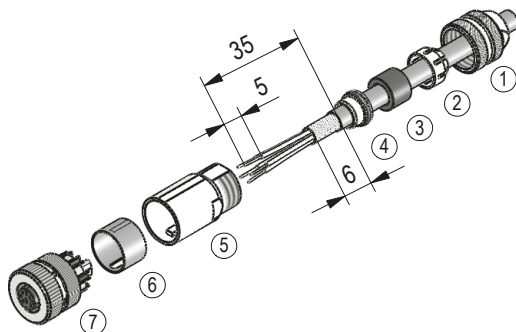

Fig. 12: Straight matting connector M12 A+D coded
- ▶ Strand cross sections of lines $\leq 0.75 \text{ mm}^2$ / cable feed-through: $\varnothing 6 \dots \varnothing 8 \text{ mm}$ (Ethernet port 1 (IN) + port 2 (OUT)).
- Accessory SIKO art. no. "87601" M12 D coded (plug pin 4 pole Ethernet port 1 (IN) + port 2 (OUT)) (Fig. 12).
- Accessory SIKO art. no. "83525" M12 A coded (socket 8 pole interface digital inputs and outputs) (Fig. 12).
Mounting (Fig. 12)